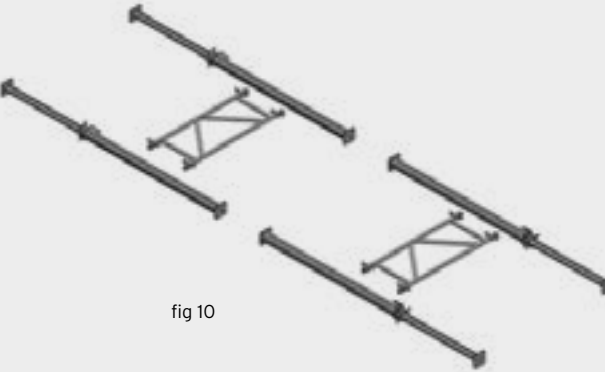

fig 10
- B Lay down both props and connecting frames in planned configuration, refer Fig. 10.